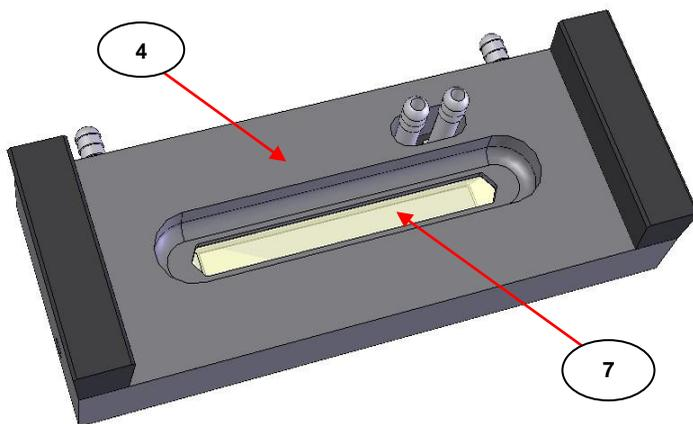

Fig 5. Sampling Area of Gateway™ ATR Water Heated Trough Top Plate
Liquids can be poured onto the crystal (7) of the Gateway™ ATR Water Heated Trough Top Plate or introduced by the use of a pasteur pipette. (See Fig 5.)